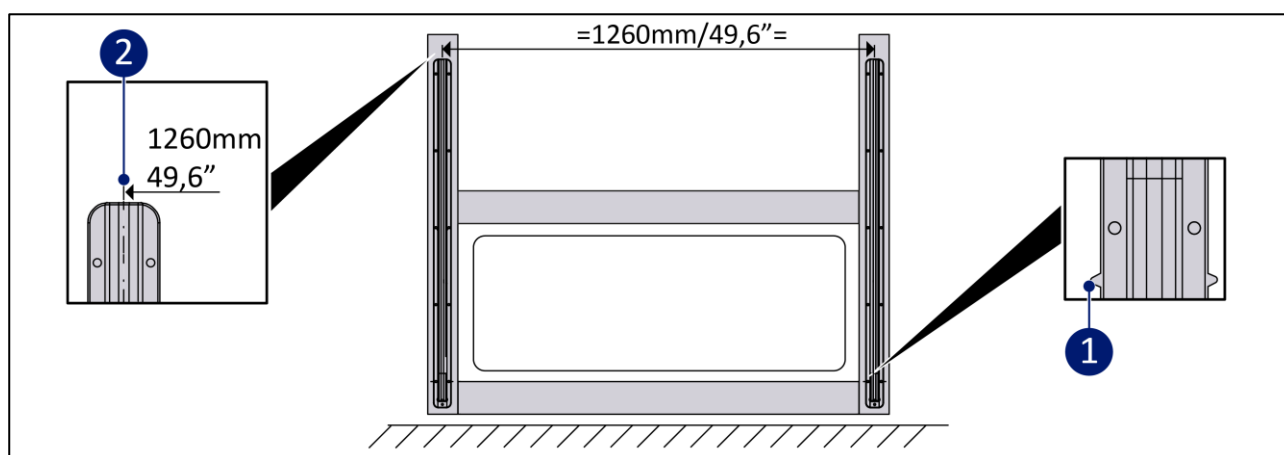

Figure 4-3: Installing the wall frames and slider rails.
- the mark on the slider rail (Figure 4-3, pos. 1) must be at the top of the HPL bottom plate;
- make sure that the center to center of the slider rails (Figure 4-3, pos. 2) is 1260mm/49,6".